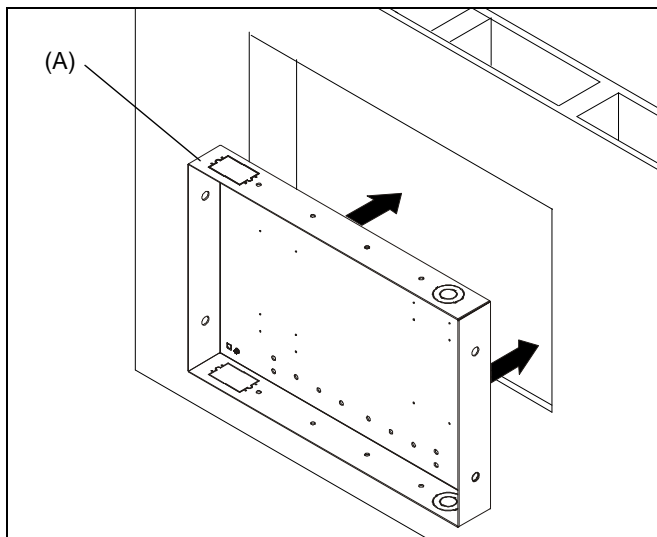

Figure 3
1. Install PAC-GB1 Listed electrical box accessory (not included) into the TA501 (A) following instructions included with the PAC-GB1.
4. Center TA501 (A) in opening and insert into opening. Align front of box with front face of wall. (See Figure 3)